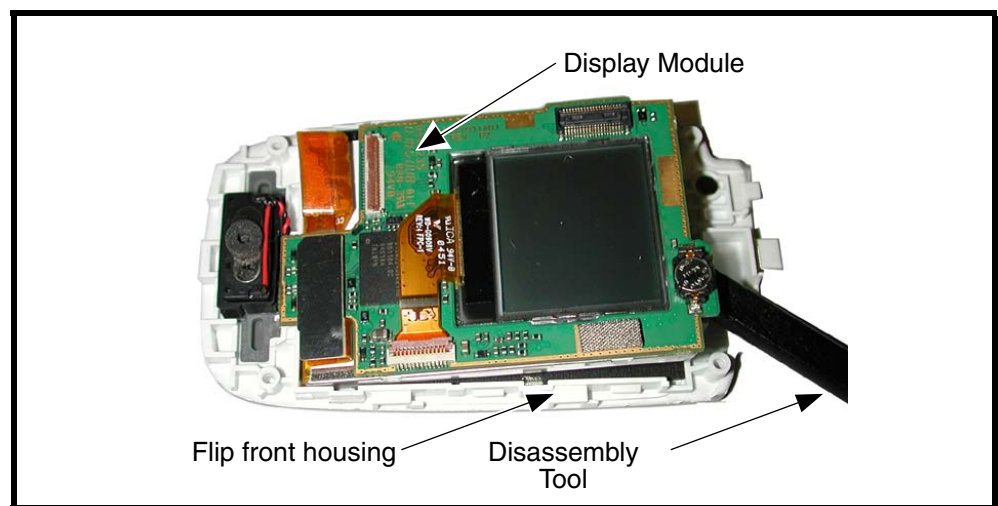

Figure 18. Display Module Assembly
2. Use the disassembly tool to unseat the display module assembly from the front housing (see Figure 18)